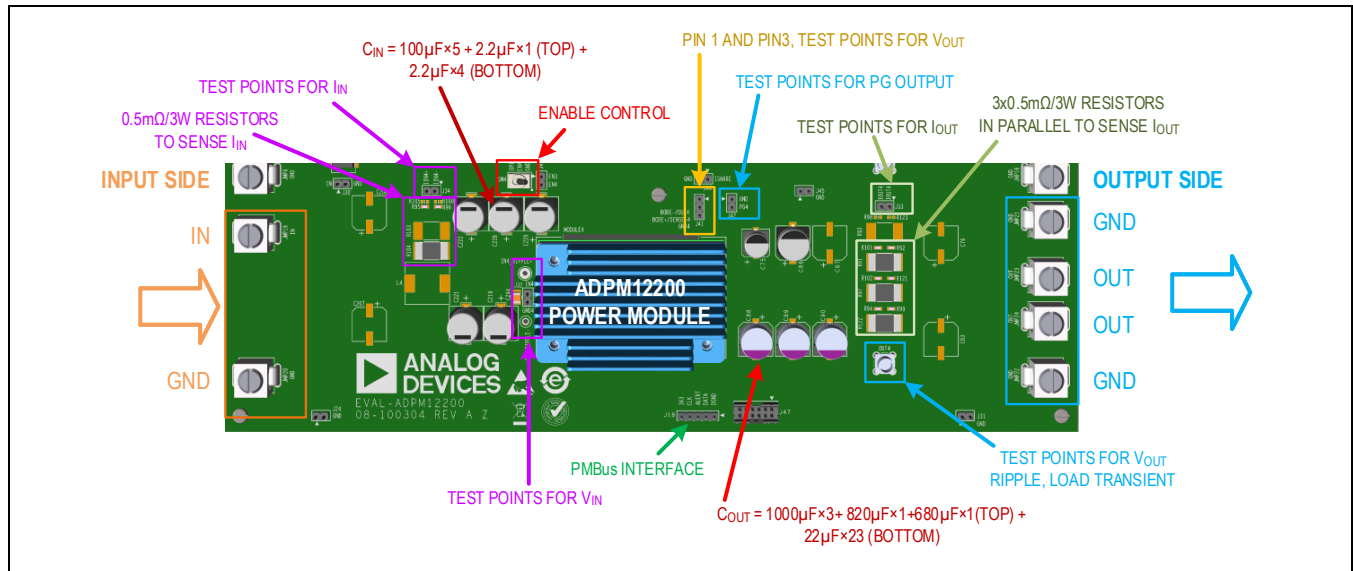

Figure 1. EVAL-ADPM12200 Board Configurations (One Module Is Shown)
7. If needed, connect the digital voltmeters and oscilloscope probes as shown in Figure 1.
The EVAL-ADPM12200 EV board includes four sockets of quarter-brick modules, and Analog Devices offers an option with one module installed or an option with two, three, or four modules installed in parallel operation. The EV board configurations vary according to the quantity of installed modules, but each module configuration is the same. See Figure 1 for the hardware configurations.